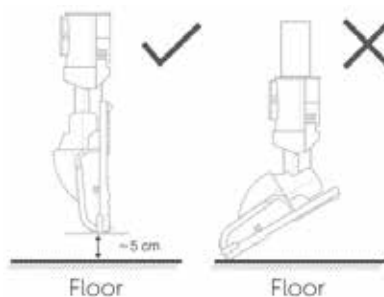

Fig. 6
1. Choose a suitable location for the wall bracket away from areas where it will get wet or knocked and close to a socket. Check that the charge cable will reach the mains socket (180cm distance max) and that there is sufficient space above and below the bracket (approx. 120-125cm below) for the fully assembled vacuum cleaner to be inserted. No part of the vacuum cleaner should touch the floor when fitted into the bracket (fig 6).